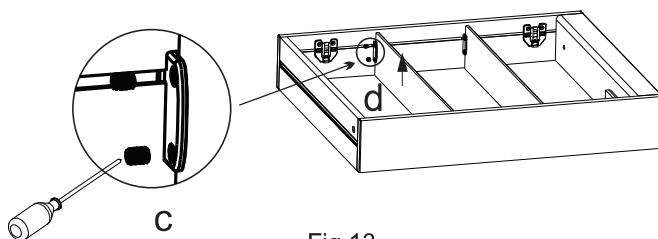

Fig.13
- 4.2.Remove 4pcs screws (c) from the shelf brackets and remove the shelf glass (d),Fig.13